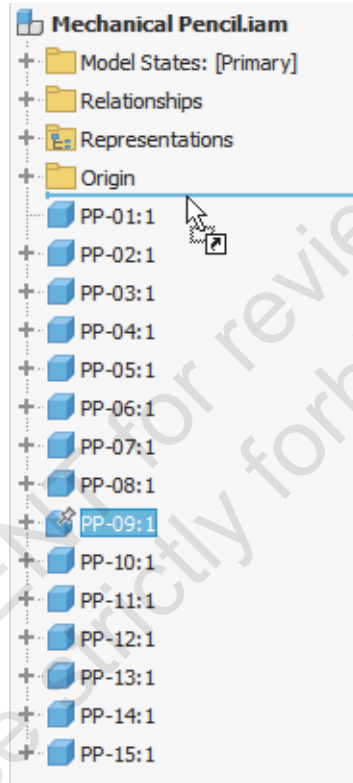

Figure 1–30
9. The grounded part is now buried in the Model browser. To correct this, drag **PP-09** back to the top of the browser, as shown in Figure 1–30.